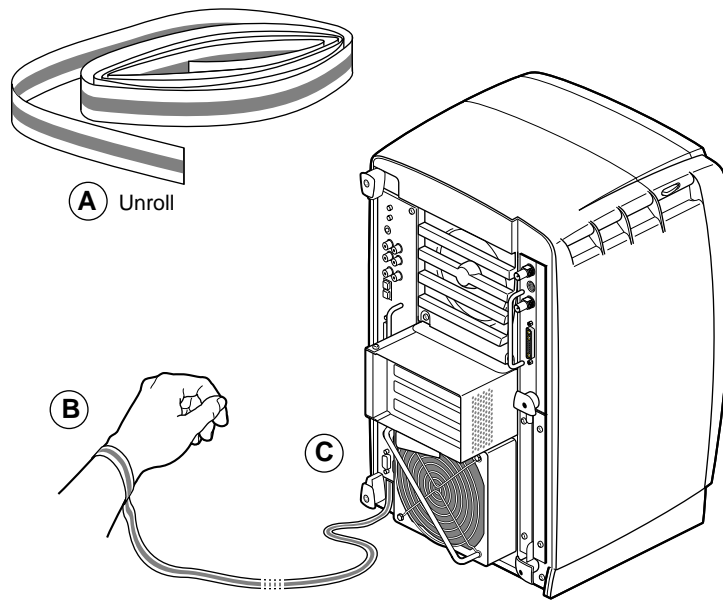

Figure 1-4 Attaching the Wrist Strap
6. Attach the wrist strap. See Figure 1-4 and follow these steps: